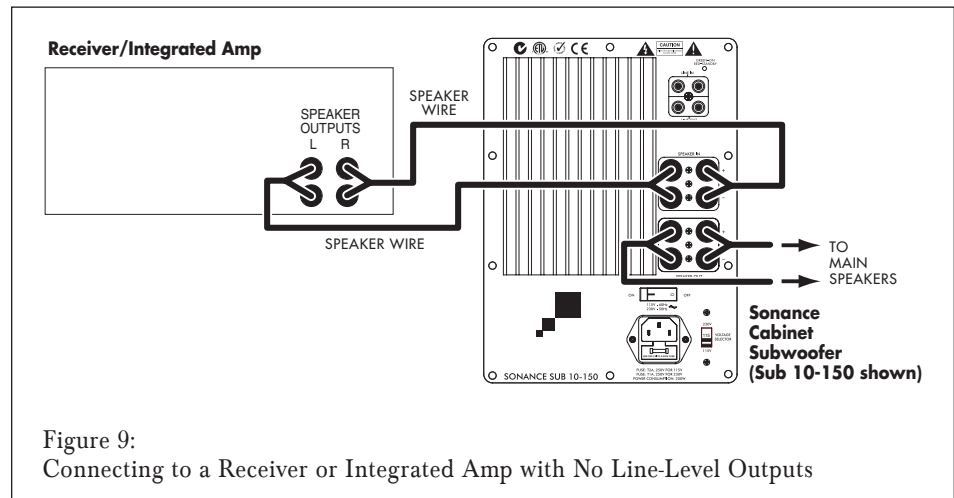

Figure 9:
**4. Receiver or integrated amplifier with no line-level outputs (see Figure 9):**